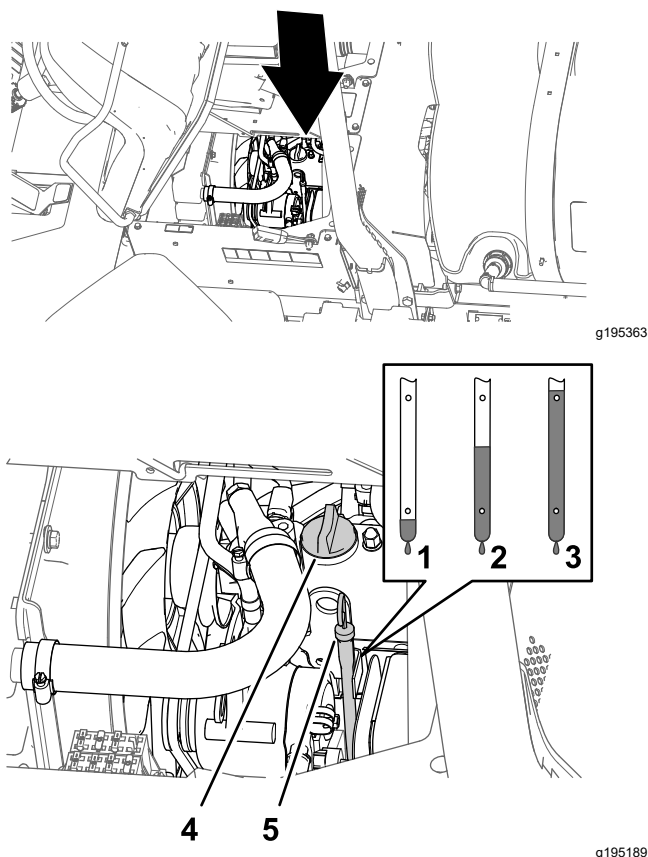

Figure 111
3. If the oil level is low, remove the filler cap from the valve cover (Figure 111) and pour oil into the filler neck until the oil level is up to the Full mark on the dipstick.
4. Install the oil-filler cap (Figure 111).
5. Install the dipstick firmly in place (Figure 111).
2. Remove the dipstick, located under the passenger seat, and wipe it with a clean rag (Figure 111).